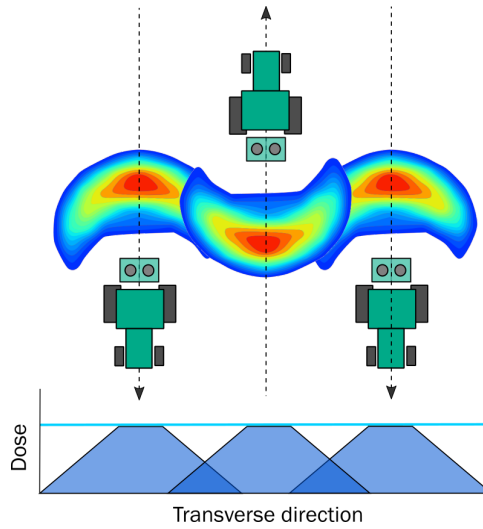

Figure 38. Generation of the transverse distribution graph.
- **Moving transverse distribution:** this graph is obtained from the summation of all the amounts of fertilizer deposited while the tractor is moving forward at a certain speed, and makes different passes at a certain working width (distance between passes). The aim of the transverse distribution is to estimate the dose of fertilizer distributed and how uniform it is. Figure 38 represents how this graph is obtained from the static spread pattern.